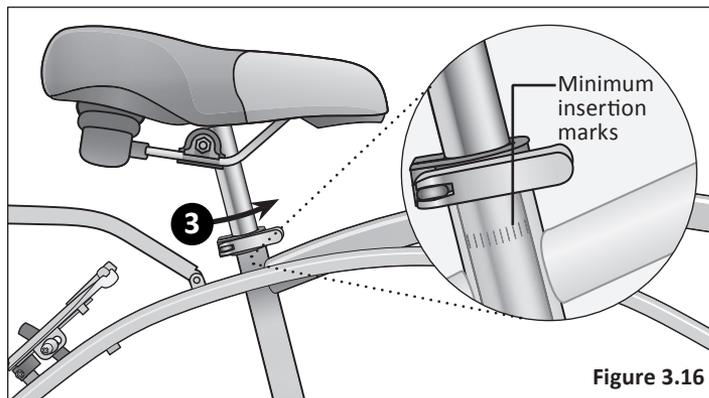

Figure 3.16
- 3 Close the quick-release lever and lock the seat in place. If there is not enough pressure to hold the seat in place open the quick-release lever. With one hand on the quick-release lever and one hand on the adjustment nut, start to hand tighten the adjustment nut until you start to feel some resistance against the seat post clamp. **Do not** attempt to tighten by turning the quick-release lever. The quick-release lever is for closing, the adjustment nut is for adjusting the pressure. **Figure 3.16**